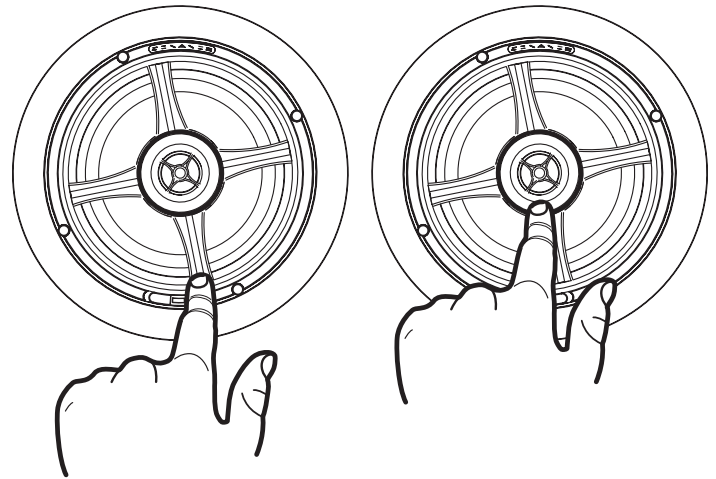

Figure 5: Pivoting the woofer and tweeter
1. Apply pressure on the outer edge of the tweeter support bracket, as shown below in Figure 5. Do not touch or apply pressure to the woofer cone.